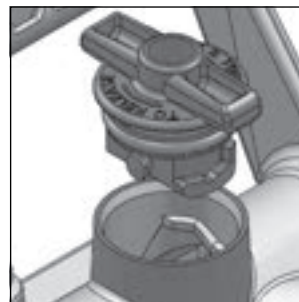

Figure 1.2
- To insert the priming plug, ensure the handles on the plug are in line with the engine shaft, or pointing towards the engine as shown in **figure 1.2**.